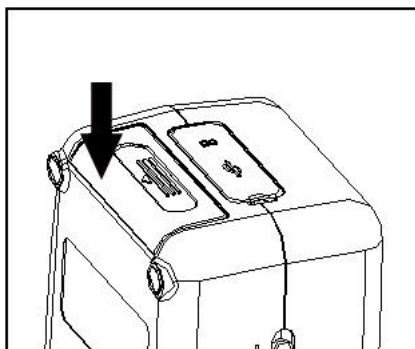

Figure 4. Mounting the battery cover
3. Follow the directions on Figure 4, press up to mount the battery into the compartment.